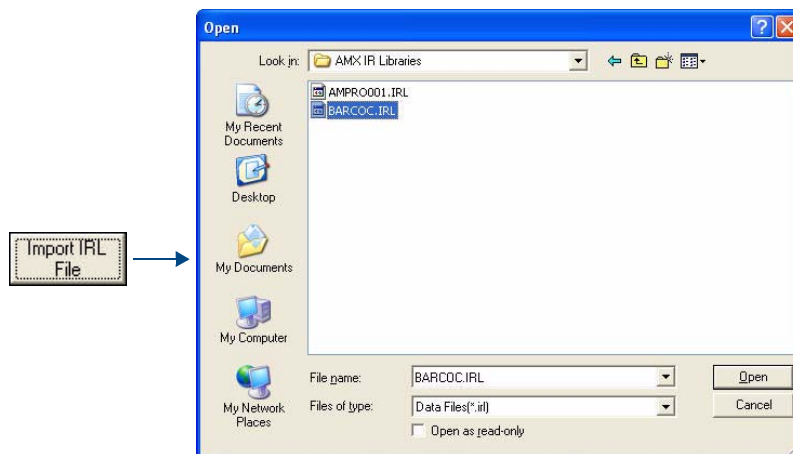

FIG. 69 Open dialog
- In the Edit Options window of the AMX Library Files dialog, click **Import IRL** (FIG. 69).